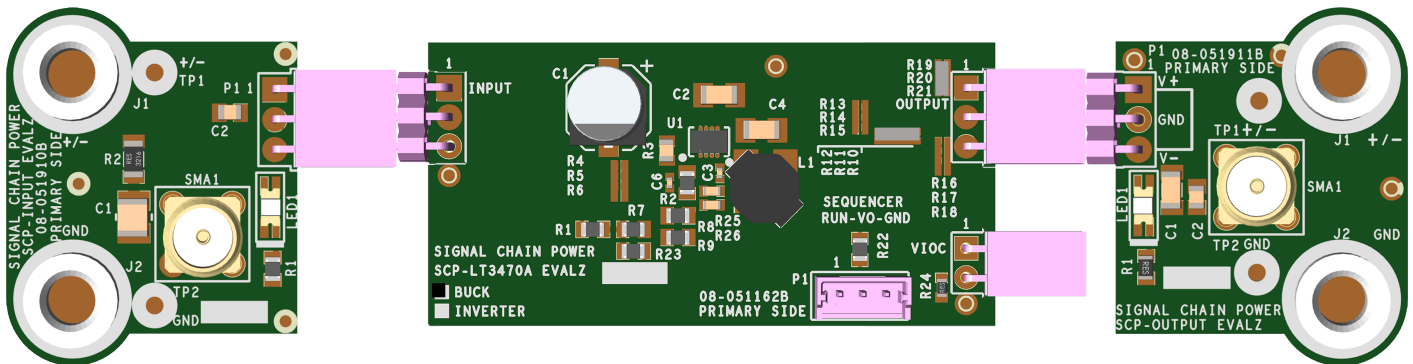

Figure 2. Proper Measurement Equipment Setup (Use SMA connectors for Measuring Input or Output Ripple)
2. Connect the SCP-INPUT-EVALZ and SCP-OUTPUT-EVALZ boards to the SCP-LT3470A-BEVALZ (refer to Figure 2) and connect the input board to a voltage source, V_{SOURCE} . Connect the output board to a voltmeter or dynamic load. Slowly raise the input voltage until the SCP-LT3470A-BEVALZ powers up into regulation and sweep V_{SOURCE} through the desired range of operation.